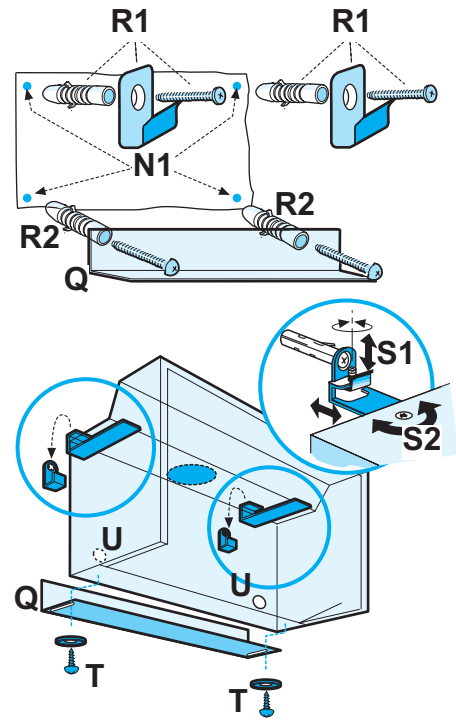

Fig. 14
- Use the drill holes diagram N1, drill as indicated, insert two hooks in the upper drill holes (**Fig. 14,R1**) and two dowels in the lower drill holes (**Fig. 14,R2**).
- Hang the cooker hood on the wall, regulate the position of the cooker hood (**Fig. 14** - screws **S1** for vertical regulation, screws **S2** for depth regulation)
- Place connection ring and discharge pipe (or deflector if supplied) to the cooker hood outlet (see “Use” section), fasten the cooker hood to the lower bracket (**Fig. 12-14,Q**) with two screws and plastic washers (**Fig. 14,T**).
- Access to the screws that secure the lower bracket may be through the drill holes located inside the cooker hood (**Fig. 14,U**).